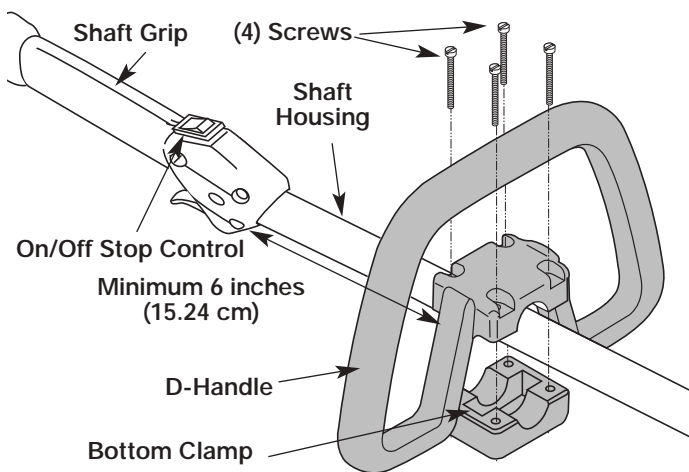

Figure 1
2. Place D-handle the over the shaft housing and onto the bottom clamp. See Figure 1. Place it a minimum of 6 inches (15.24 cm) from the end of the shaft grip.